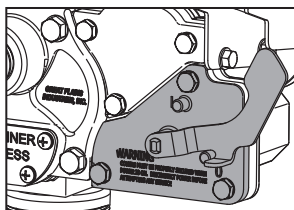

Figure 13
2. Remove the switch coverplate from the pump housing (see Figure 13).